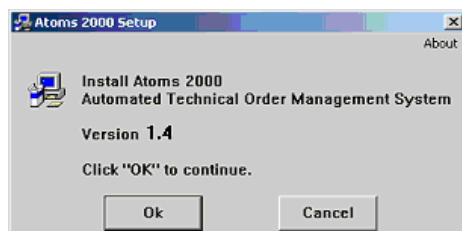

Figure 3-6. ATOMS 2000 Setup
5) The ATOMS 2000 Setup window appears (Figure 3-6), showing Version 1.4. Click **OK**.